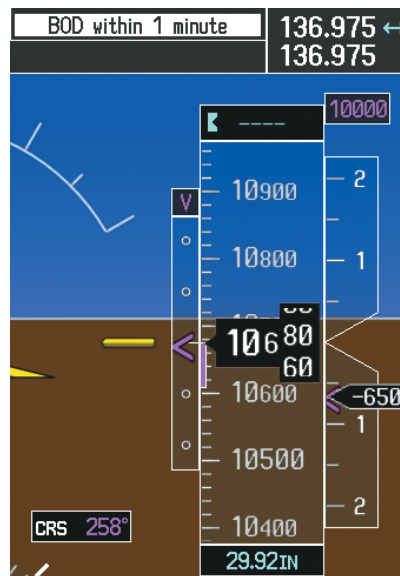

Figure 5-130 Approaching Bottom of Descent (BOD) at OPSHN Offset Waypoint
- 17) When the aircraft is one minute from the bottom of descent (BOD) it is annunciated as shown in Figure 5-130. Upon reaching the offset waypoint for OPSHN, the aircraft is at 10,000 feet.